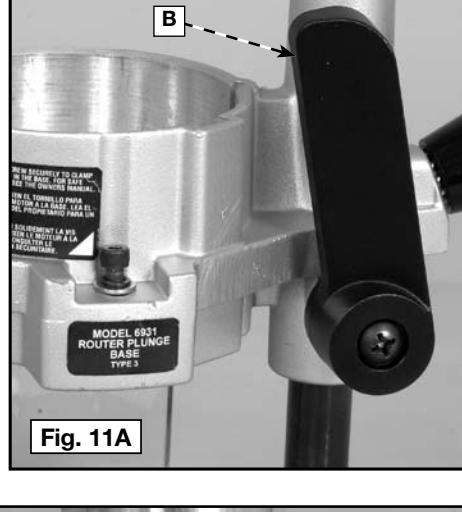

Fig. 11A
2. Release the plunge mechanism by pulling the locking lever (B) Fig. 11A to the left. Lower the plunge mechanism until the router bit touches the work surface. Release the lever and push it to the right to lock the mechanism in this position.